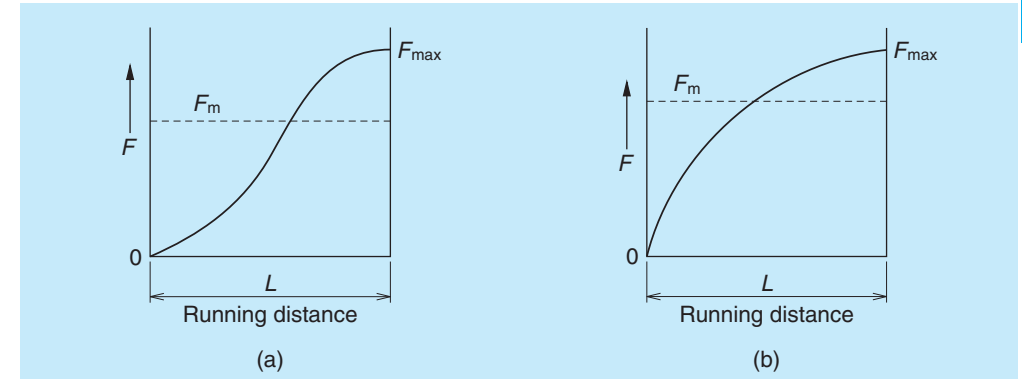

Fig. 2.5 Load that changes in sinusoidal pattern
(3) When load changes in sinusoidal pattern (Fig. 2.5)
(Fig. 2.5)